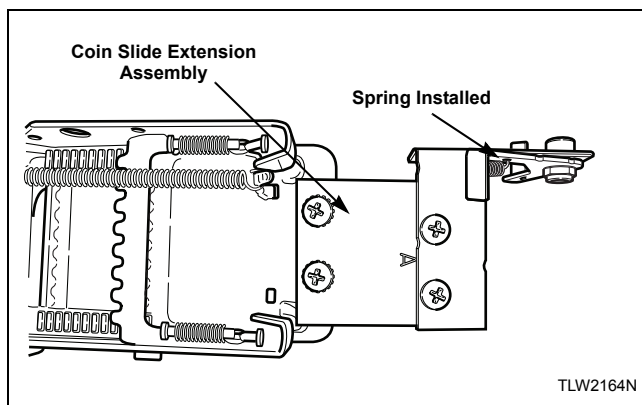

Figure 16
6. Install coin slide extension assembly onto top of coin slide using two remaining screws and lockwashers. Refer to *Figure 16*.
3. Install slide extension onto top of coin slide using two screws. Refer to *Figure 16*.